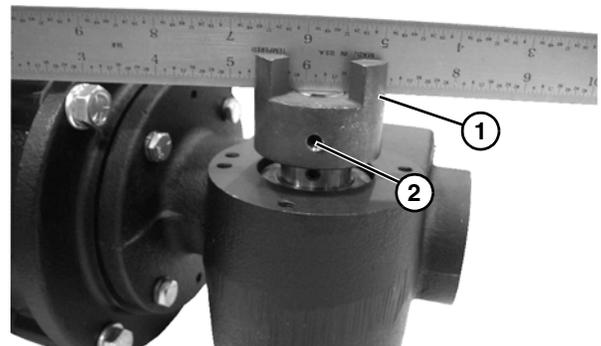

Figure 16
- Install 3 jaw coupling (**Figure 16, item 1**) so that the shaft is even with the coupling, and tighten set screw (**Figure 16, item 2**) to 45 in-lbs (5 N-m).